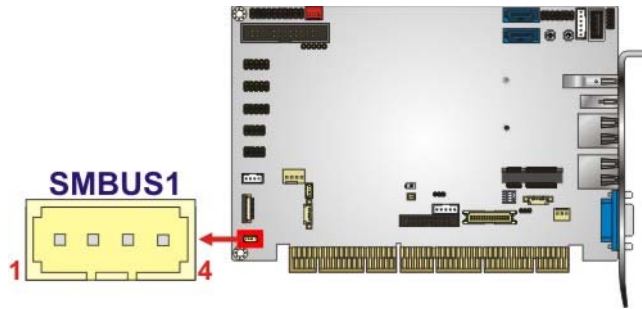

Figure 3-25: SMBus Connector Location
- CN Location:** See Figure 3-25